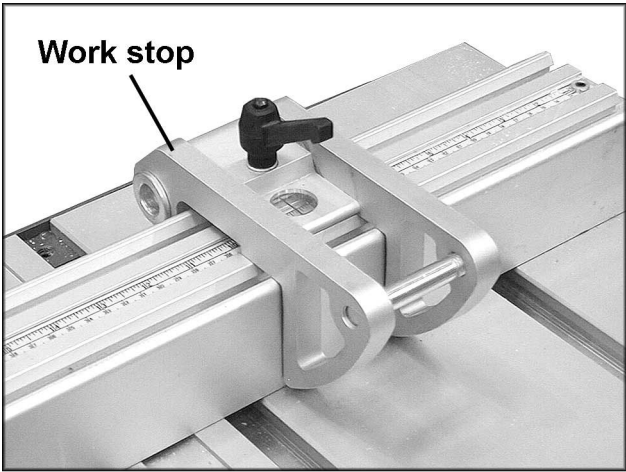

FIGURE 27
1. Put the stop, shown in Figure 27, at a certain measure and cut off a sample.